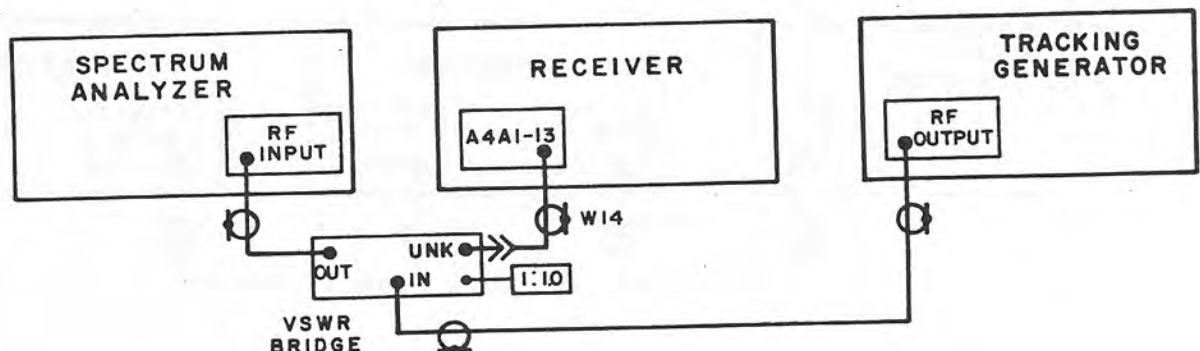

Figure 6-4. 10.7 MHz Filter Switch VSWR Adjustment, Test Setup
(1) Test equipment required. The following equipment will be required for this test. Refer to table 1-3 for specifics.
(2) Procedures.
- (b) Set up test equipment as shown in figure 6-4.